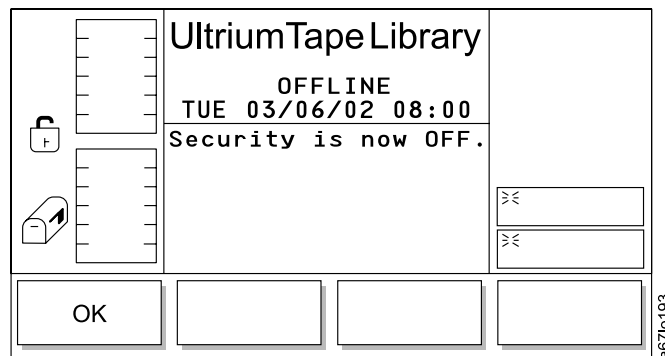

Figure 156. Security Off Dialog
**Disable Security:** When **Yes/No** is selected from the Secure Dialog and the Enable Security field is unchecked, the Security Off Dialog displays (see Figure 156).